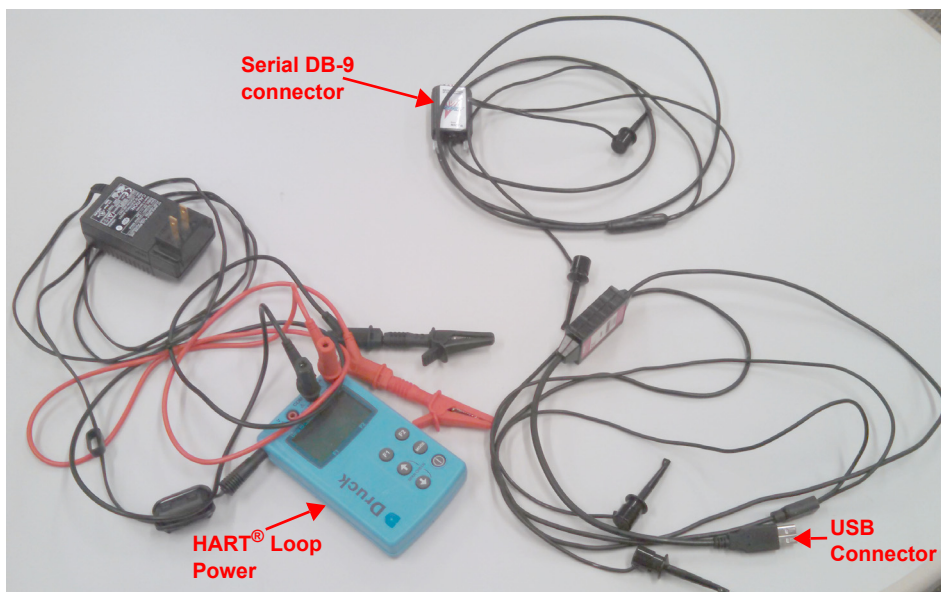

Figure 1 Bench Setup Equipment
1. Buy a kit similar to the one shown in Figure 1. This kit contains a HART[®] Loop Calibrator (with wall power supply and loop test lead wires) and either a USB connector or a serial port connector for your laptop. The setup shown in Figure 1 is a GE product and can be purchased at: